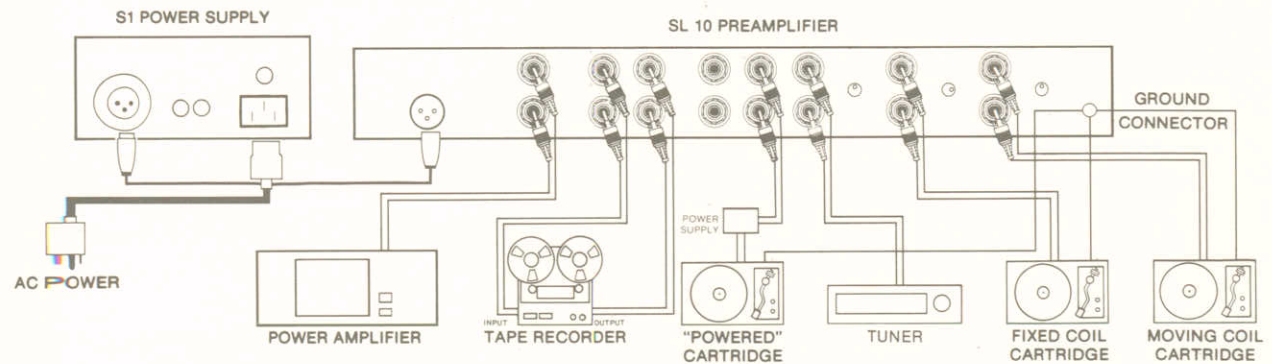

FIGURE 1 INTERCONNECTION DIAGRAM
- 2 The *upper* row of connectors on the back panel of the SL10 audio module are those for LEFT CHANNEL information, the *lower* connectors are for RIGHT CHANNEL information. Follow the connection diagram for the associated equipment used with the SL10 as shown in figure 1. The identifying titles on the preamplifier cover describe the type of signal the connectors should carry. Be sure your "magnetic" (velocity characteristic) cartridge is connected to the correct high or low impedance TURNTABLE INPUT and that the applicable load matching switches are in the appropriate positions. These switches are located on the rear panel adjacent to the two TURNTABLE INPUT pairs.